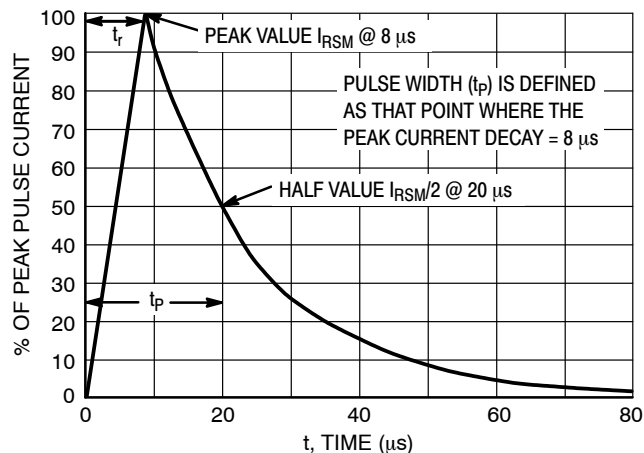

Figure 5. 8 x 20 μ s Pulse Waveform
- Surge current waveform per Figure 5.